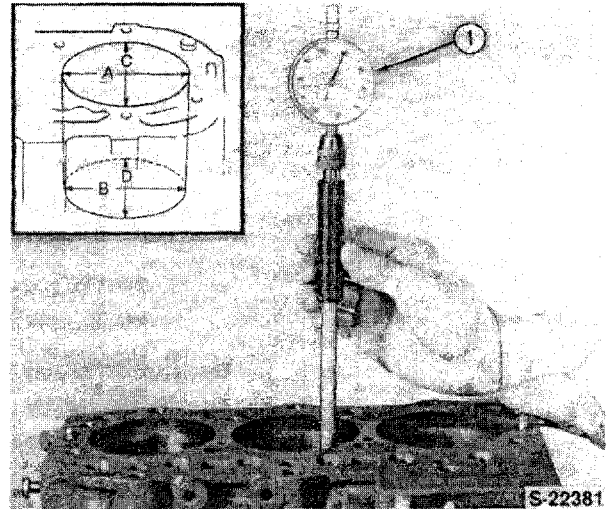

Figure 64
Check the condition of the cylinder bore, Figure 64, for wear in the following manner.
1. Measure the diameter of cylinder bore in four positions using a suitable bore gauge, Figure 64.